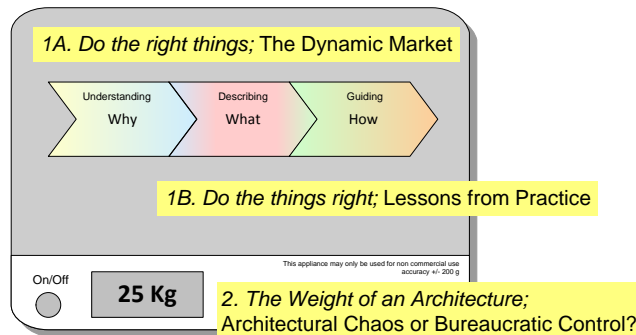

Figure 2: Table of Contents
*Do the right things* is addressed in section 2. *Do the things right* is addressed in section 3. The weight of an architecture is discussed in section 4. This structure of the presentation is visualized in figure 2.